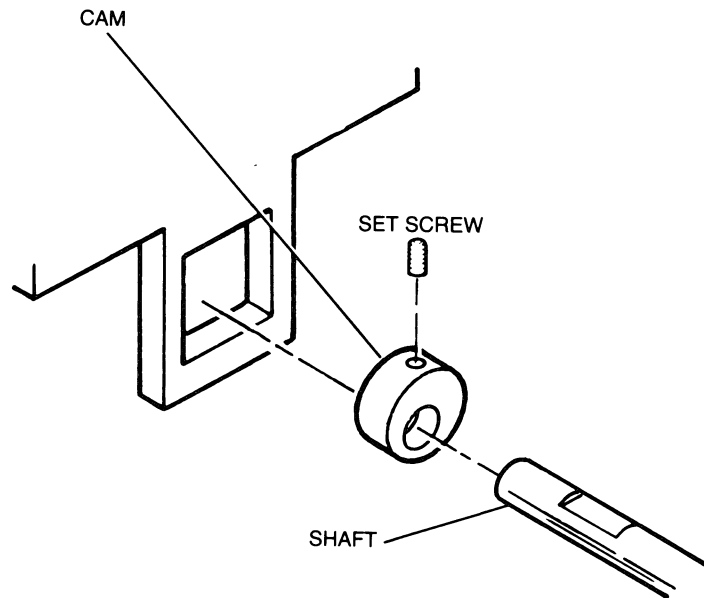

Figure 5.18 Adjusting Cam
11. Place adjusting cams into the platen slides with their set screws up (see Figure 5.18).